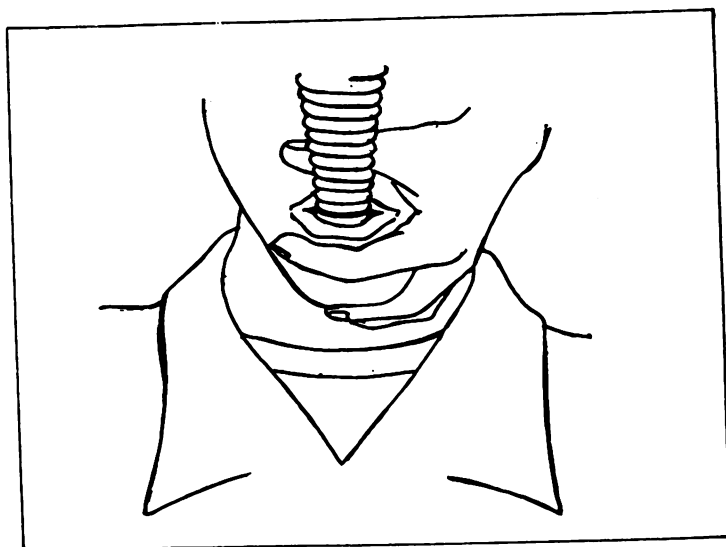

Figure 3.
- b. Seal the mouthpiece in place by placing your thumb and index finger over the soldier's lips (fig 3). Hook the other fingers under his chin to keep his jaw up.